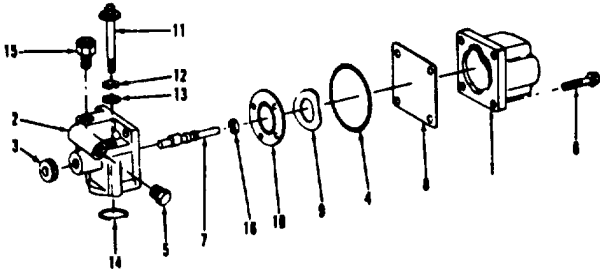

Figure 3-34.
(2) Remove coil housing (1, fig. 3-34), fuel shield (8), and O-ring (4). Discard O-ring.
(3) Remove spring washer (9) and plate-type valve (10).
(4) If necessary, remove manual override knob (3) and unscrew override shaft (7) from coil end. Discard shaft O-ring (16).
(6) Place fuel shield (8, fig. 3-34) on coil housing and secure to valve housing assembly with lockwashers (12) and capscrews (11). Tighten capscrews to 15/20 inch-pound torque.
(7) Energize valve and pump fluid through valve at 300 psi. Deenergize valve; valve should with stand the 300 psi load with no leakage through valve.
(8) Should leakage exist, check the main body for nicks or depressions where body and plate come in contact. Check the rubber seal in the plate for swelling or other defects.